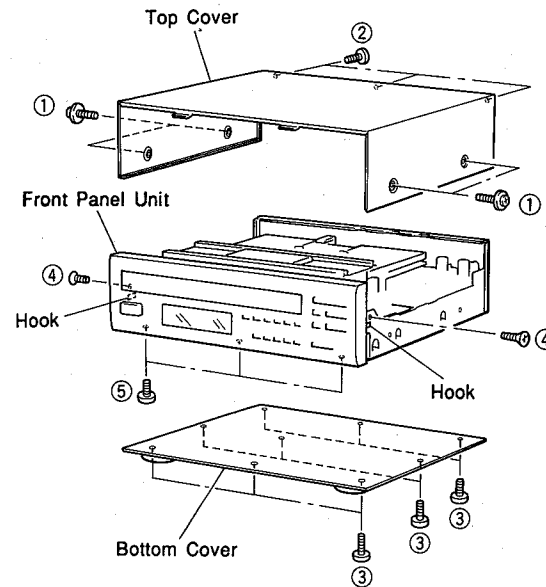

Fig. 1
Remove 4 screws (①) and 3 screws (②), and then remove the Top Cover. (Fig. 1)
Remove 9 screws (③) and then remove the Bottom Cover. (Fig. 1)
- Remove 2 screws (④) and 3 screws (⑤). (Fig. 1)
- Remove hooks on both sides and then remove the Front Panel unit. (Fig. 1)